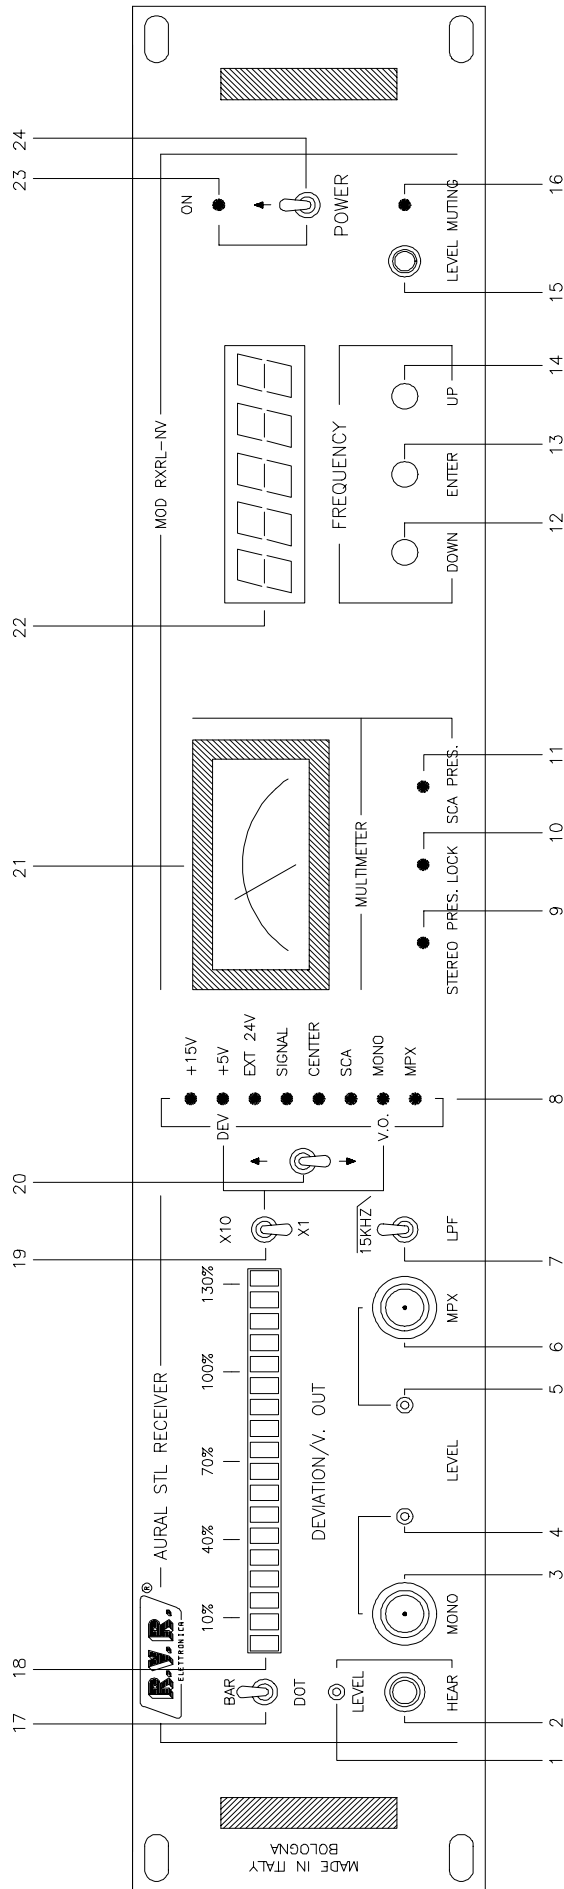

FIG. 1
The parameters are selected by a lever switch (20 Fig.1) and the selection is indicated by the legend of the green led (8 Fig.1).
This card is mounted on the right side of the front panel and allows adjustment of the receiver's muting threshold (= -83 dBm of default) and displays the muting status with a led (16 Fig.1).
FRONT PANEL VIEW DESCRIPTION (FIG.1)
- 3) Switch the power switch (24 Fig.1) to the OFF position.
- 5) Switch the power switch to the ON position and check that the green POWER ON led (23 Fig.1), and the green led corresponding to the parameter selection SIGNAL (8 Fig.1), are both lit.
After a few seconds the frequency display (22 Fig.1) will come on and display a number (eg. 1750.00) corresponding to the last operating frequency to have been programmed.
that the oscillator has locked to the operating frequency displayed. The display has five digits, 4 before the decimal point representing (from left to right) thousands of MHz, hundreds of MHz, tens of MHz and MHz; and 1 after the decimal point representing hundreds of KHz. To change this number, use the UP (14 Fig.1) and DOWN (12 Fig.1) buttons to respectively increase it and decrease it.
Once the desired frequency has been found, press ENTER (13 Fig.1) to confirm and save it.
- 6) Connect an audio analyzer to the MONO (3 Fig.1) or MPX outputs (6 Fig.1).
Modulate the carrier with a 400Hz tone at a deviation of ± 100 KHz. Check that the analog meter (21 Fig.1) displays a reading of 1mV.
- 7) Select CENTER with the selector (20 Fig.1) and check that the received signal is centered.
Set the modulation display gain (20 Fig.1) to 130% f.s.d.
Connect an audio analyzer to the MONO output (3 Fig.1).
Check that the bar-graph display (18 Fig.1) lights up to the first
9) Connect an audio analyzer to the STEREO output (6 Fig.1).
10) Inject a signal with a level of -83dBm and adjust the MUTING trimmer R2 (15 Fig.1) until the red muting led switches on.